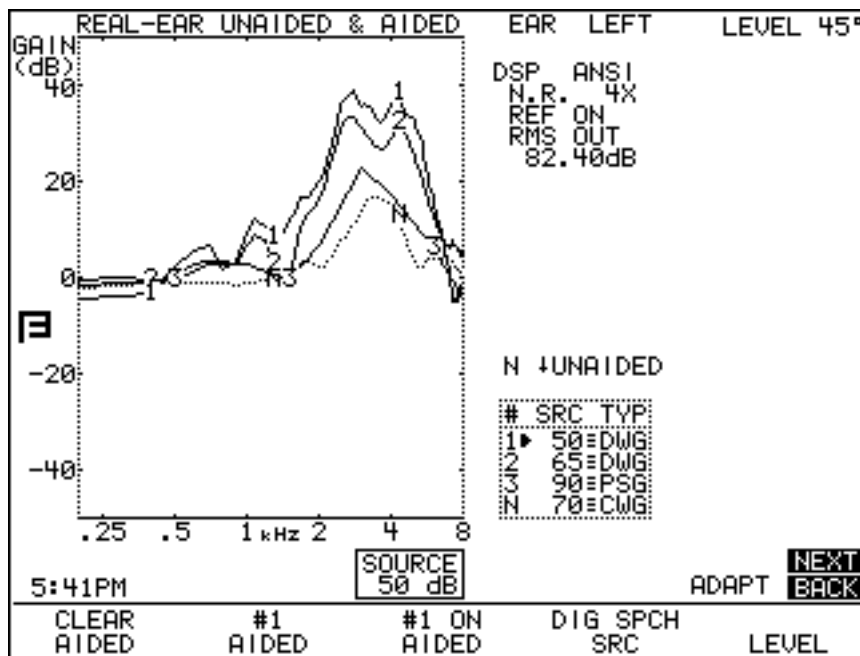

Figure 4.4.2—Unaided and aided response
6. Press [START/STOP] to introduce the signal. The aided response will appear on the graph as a thin line labeled with a curve number. See Figure 4.4.2.